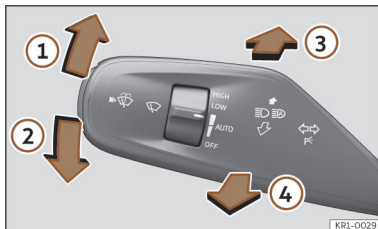

Fig. 94 Turn signal and main beam lever.
- From the neutral position, press the turn signal and main beam headlights lever forwards >>> **Fig. 94** .
- **EITHER:** if main beam assist is on, pull the turn signal light and main beam headlights lever back >>> **Fig. 94 ④**.